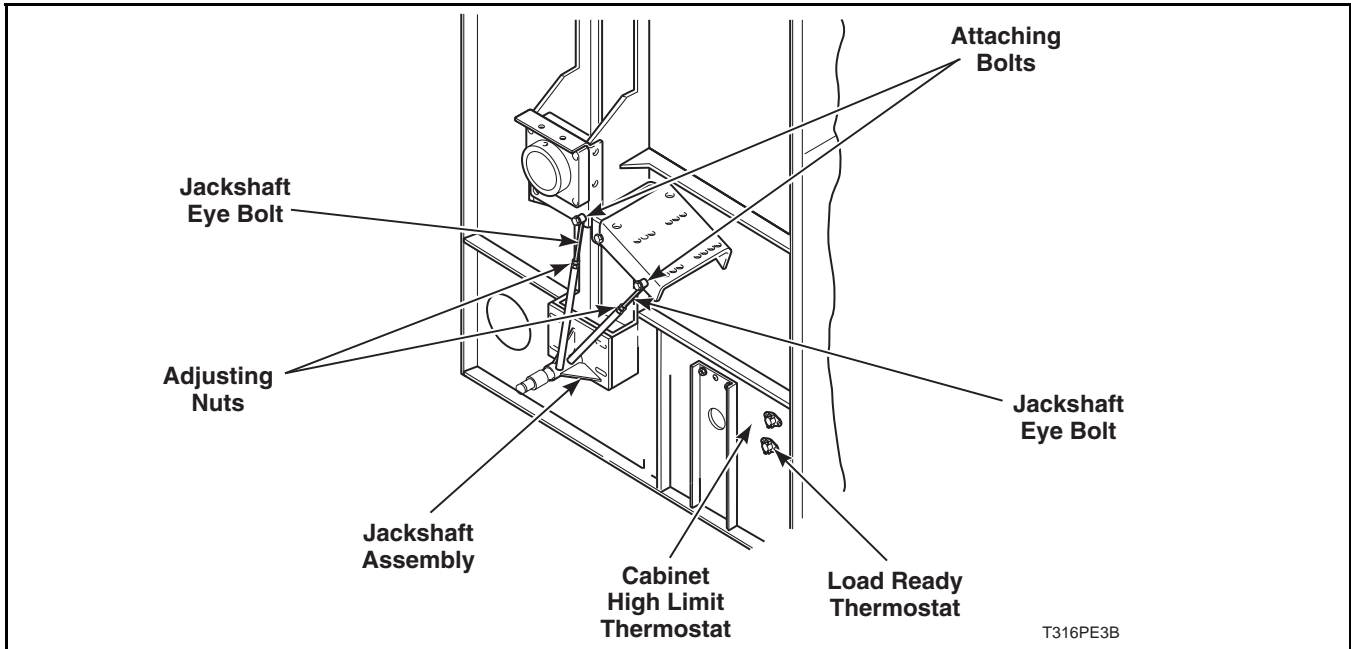

Figure 13
- b. Loosen the four jackshaft assembly attaching nuts. Refer to *Figure 13*.
- c. Rotate the adjusting nuts counterclockwise (approximately three turns). Refer to *Figure 13*.
Refer to *Figure 13*.
- c. Loosen the four jackshaft assembly attaching nuts. Refer to *Figure 13*.